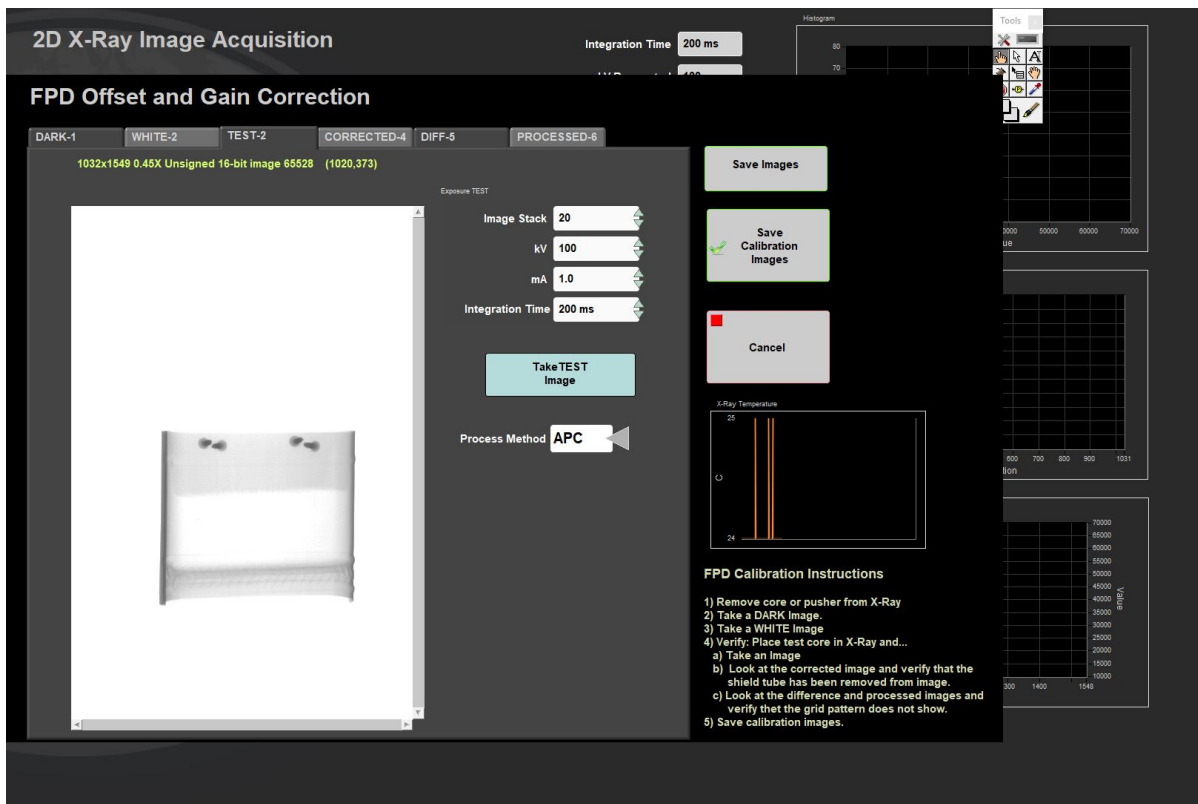

Figure 26- Test Image Tab after selecting take test image
1. Select tab TEST-3 (**Figure 26**)
3. Once the exposure is completed, you'll be returned to the **FPD Calibration Utility** window (**Figure 26**).